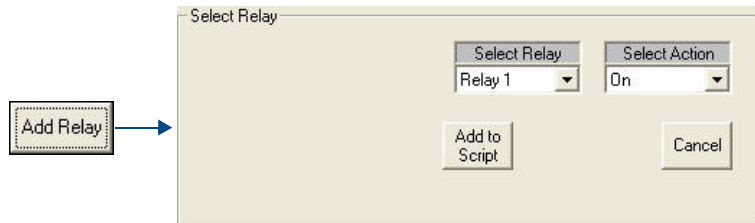

FIG. 117 Select Relay window
2. Click the **Add Relay** button in the Command Bar to invoke the *Select Relay* window (FIG. 117).